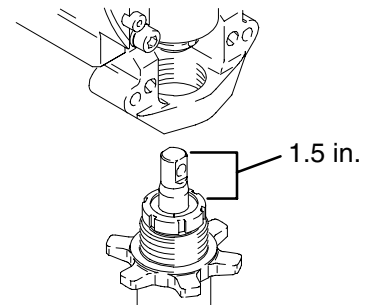

Fig. 15
1. Fig. 15. Pull piston rod out 1.5 in. Screw in pump until holes in bearing cross link and piston rod align.